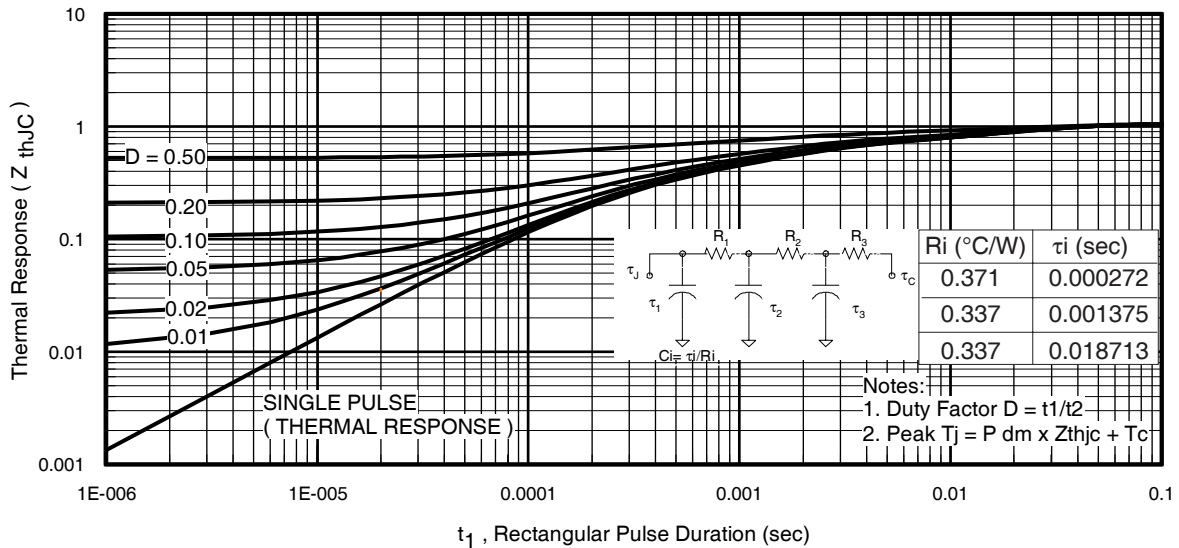

Fig 11. Maximum Effective Transient Thermal Impedance, Junction-to-Case
- ① Repetitive rating; pulse width limited by max. junction temperature. (See fig. 11).
- ② Limited by T_{Jmax} , starting $T_J = 25^{\circ}C$, $L = 0.04mH$, $R_G = 25\Omega$, $I_{AS} = 75A$, $V_{GS} = 10V$. Part not recommended for use above this value.
- ③ Pulse width $\leq 1.0ms$; duty cycle $\leq 2\%$.
- ④ C_{oss} eff. is a fixed capacitance that gives the same charging time as C_{oss} while V_{DS} is rising from 0 to 80% V_{DSS} .
- ⑤ This value determined from sample failure population, starting $T_J = 25^{\circ}C$, $L = 0.04mH$, $R_G = 25\Omega$, $I_{AS} = 75A$, $V_{GS} = 10V$.
- ⑥ This is applied to D²Pak, when mounted on 1" square PCB (FR-4 or G-10 Material). For recommended footprint and soldering techniques refer to application note #AN-994.
- ⑦ R_{θ} is measured at T_J approximately $90^{\circ}C$.
- ⑧ This is only applied to TO-220AB package.
- ⑨ Calculated continuous current based on maximum allowable junction temperature. Bond wire current limit is 75A. Note that current limitations arising from heating of the device leads may occur with some lead mounting arrangements. (Refer to AN-1140 <http://www.irf.com/technical-info/appnotes/an-1140.pdf>)
$Z_{thJC}(D, t_{av})$ = Transient thermal resistance, see figure 11)